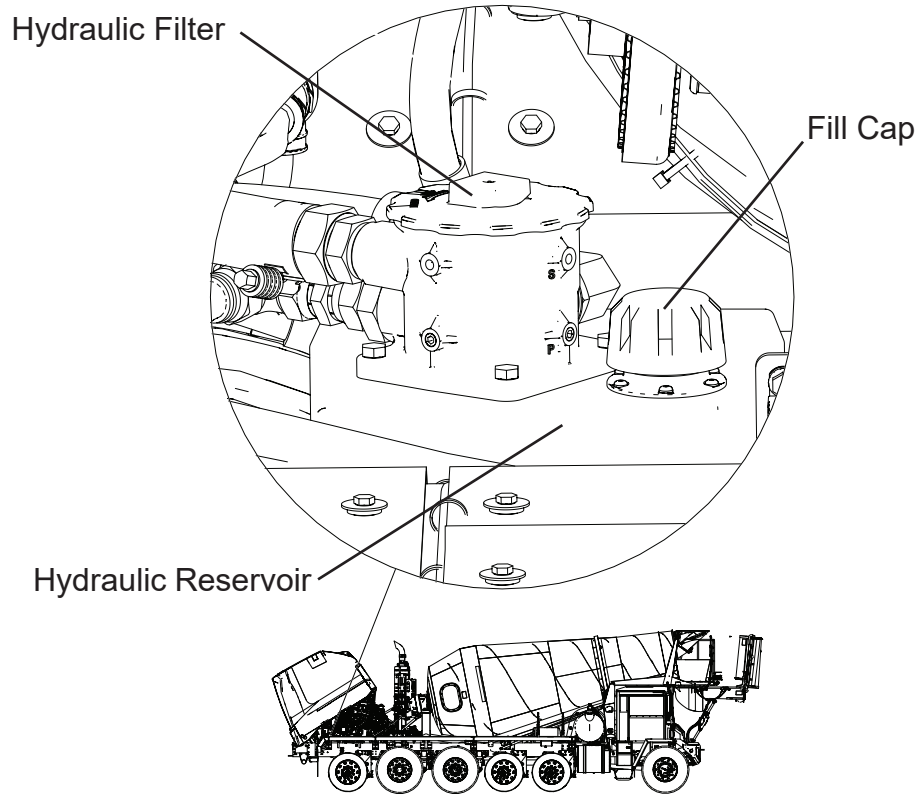

Figure 1 - Hydraulic Filter Location
4. Locate the hydraulic filter assembly on the right-hand side of the truck under the engine cover, see Figure 1.